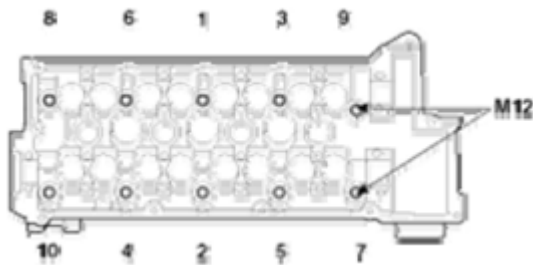

Fig. 39: Identifying Tightening Sequence Of Cylinder Head Bolts
2. Using 8mm and 10mm hexagon wrench, install and tighten the 10 cylinder head bolts and plate washers, in several passes, in the sequence shown in **Fig. 39**.